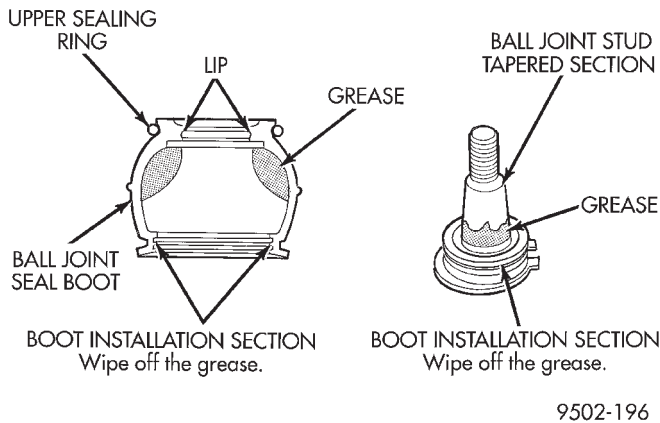
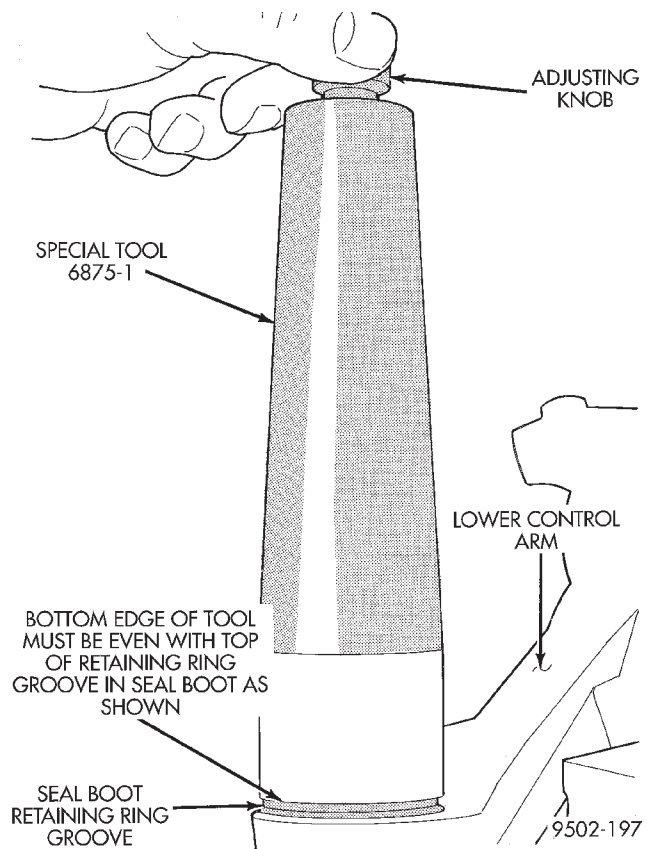

Fig. 81 Grease Correctly Applied To Ball Joint Stud And Seal Boot
Fig. 82 Correctly Installed Ball Joint Seal Retaining Ring Tool
(1) Apply grease from the ball joint seal kit, to the specified areas of the ball joint stud and seal (Fig. 81). Be sure no grease is present on the seal boot installation section of the seal boot or lower control arm (Fig. 81).
(2) Slide ball joint seal boot with upper seal ring installed, (Fig. 81) down tapered section of ball joint stud (Fig. 81). Seal boot is to be installed on stud of ball joint until seal boot is sitting on seal groove in lower control arm.
(3) Carefully position ball joint seal boot in seal retaining groove on lower control arm. After installing seal boot in retaining groove, carefully bleed air out of sealing boot without getting grease pushed into seal boot retaining groove in lower control arm.
(4) Place Retaining Ring Installer, Special Tool, 6875-1 over ball joint seal boot (Fig. 82). Using adjusting knob, adjust tool so bottom edge of tool is even with top of retaining ring groove in seal boot (Fig. 82).